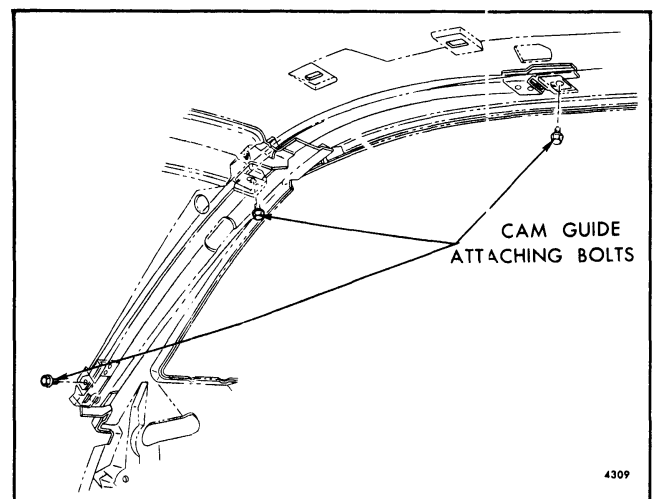

Fig. 7-98-Tail Gate Window Left Guide Cam Attachment
11. For removal of left guide cam, remove guide attaching screws and withdraw guide from body (Fig. 7-98).